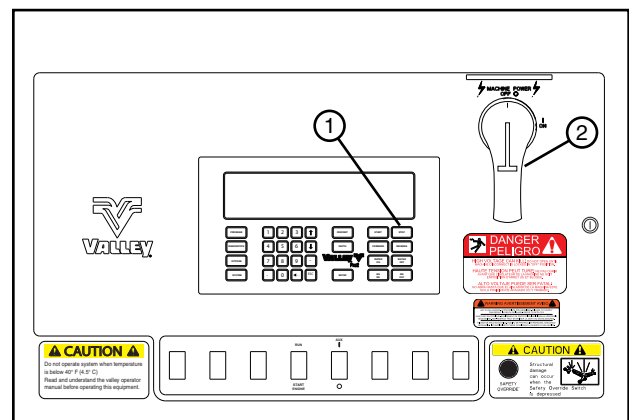

Figure 23-2 1. Stop Key
1. Press the STOP key. See figure 23-2.
2. Turn the main disconnect switch to the OFF position. See figure 23-2.